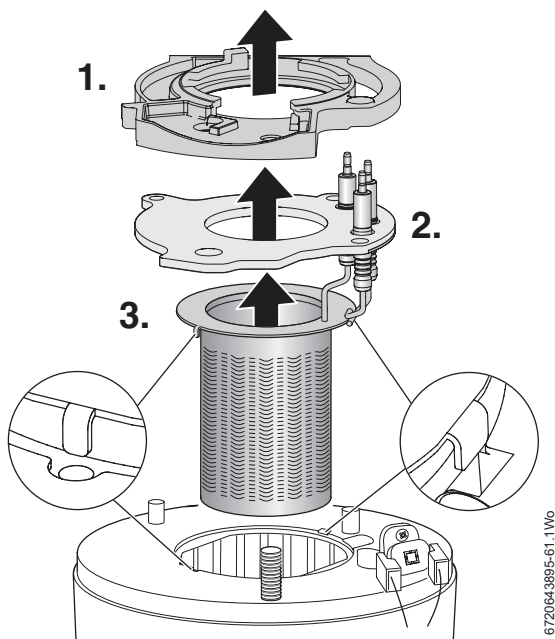

Fig. 98 Electrode assembly and burner
Refer to figure 98.
- ▶ Ensure that burner tabs, as shown in figure 98, fit correctly their respective locations.